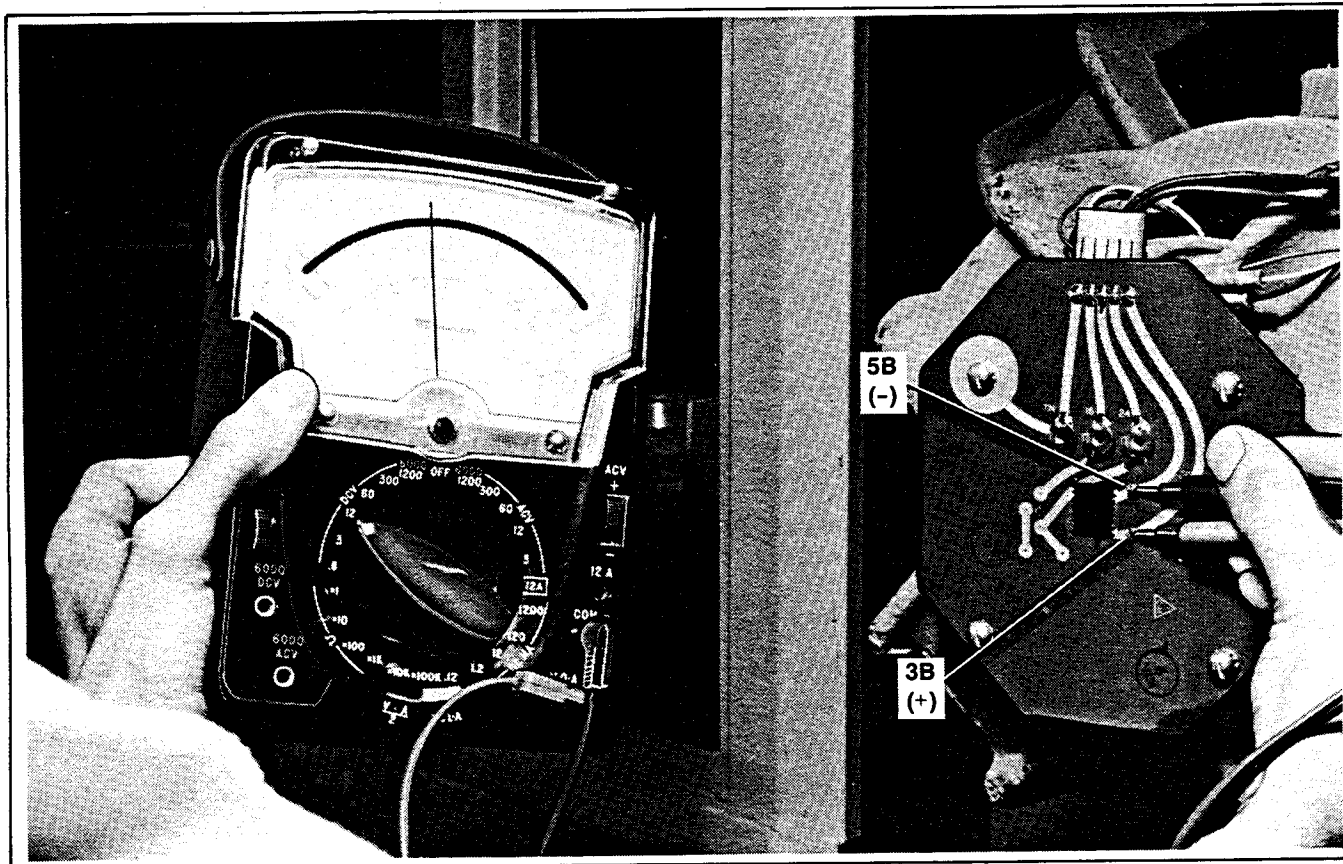

Figure 4-12. LED Board Voltage Check
- Check for 2-6 DC volts across 3B (+) and 5B (-) of LED board with set running and safeguard breaker closed. See Figure 4-12.